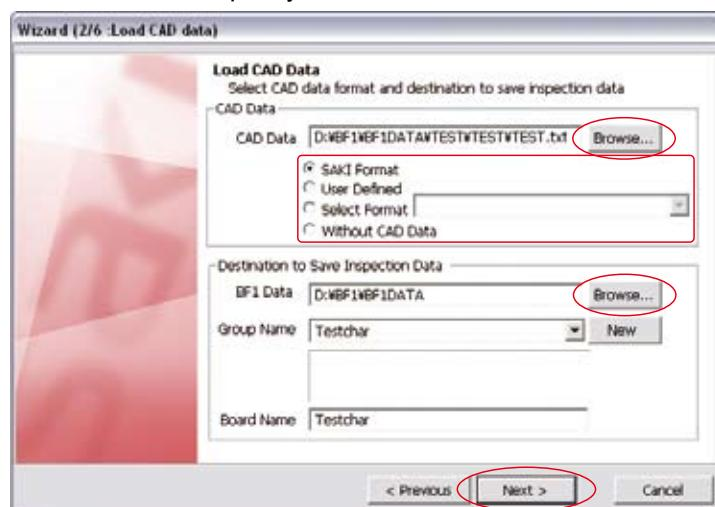

Figure 1-3 Wizard 2
Step7: Enter **Board Name of Destination to Save Inspection Data** in Figure 1-3 and press **Next**. If **SAKI Format** or **Select Format** in step4 is checked, CAD data will be automatically extracted. If **User Defined** is checked, the format should be made newly. Refer to **1.3 Make User Define Format**. After format is made, CAD data will be automatically extracted.